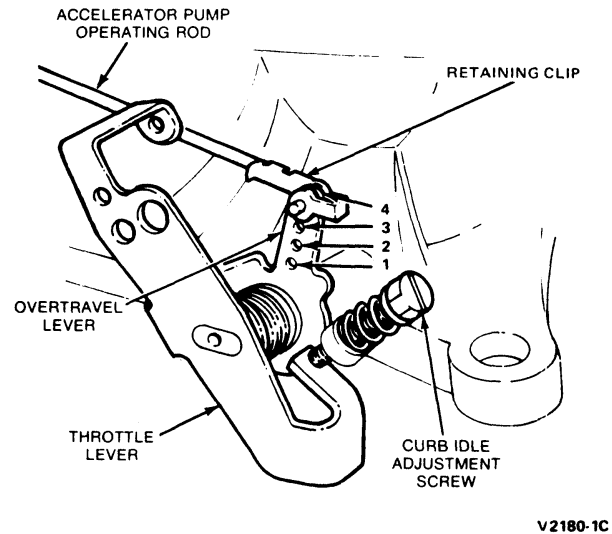

FIG. 21 Typical Accelerator Pump Stroke Adjustment
The accelerating pump stroke has been factory set for a particular engine application and should not be re-adjusted. If the stroke has been changed from the specified hole re-set to specifications by following these procedures (Fig. 21).
3. Adjust the engine idle speeds, fuel mixture, and check and adjust the accelerator pump stroke if necessary. (Make sure the rod is set in the specified hole) (Fig. 21).